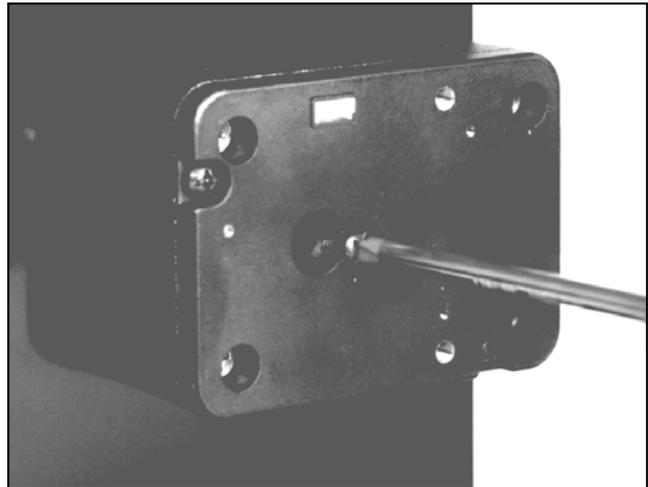

Fig. 5 - Insert cam mounting screw
14. While holding the spindle, insert the cam mounting screw through the back of the lock case and into the end of the spindle. Turn the screw until it is securely attached to the spindle (Figure 5).